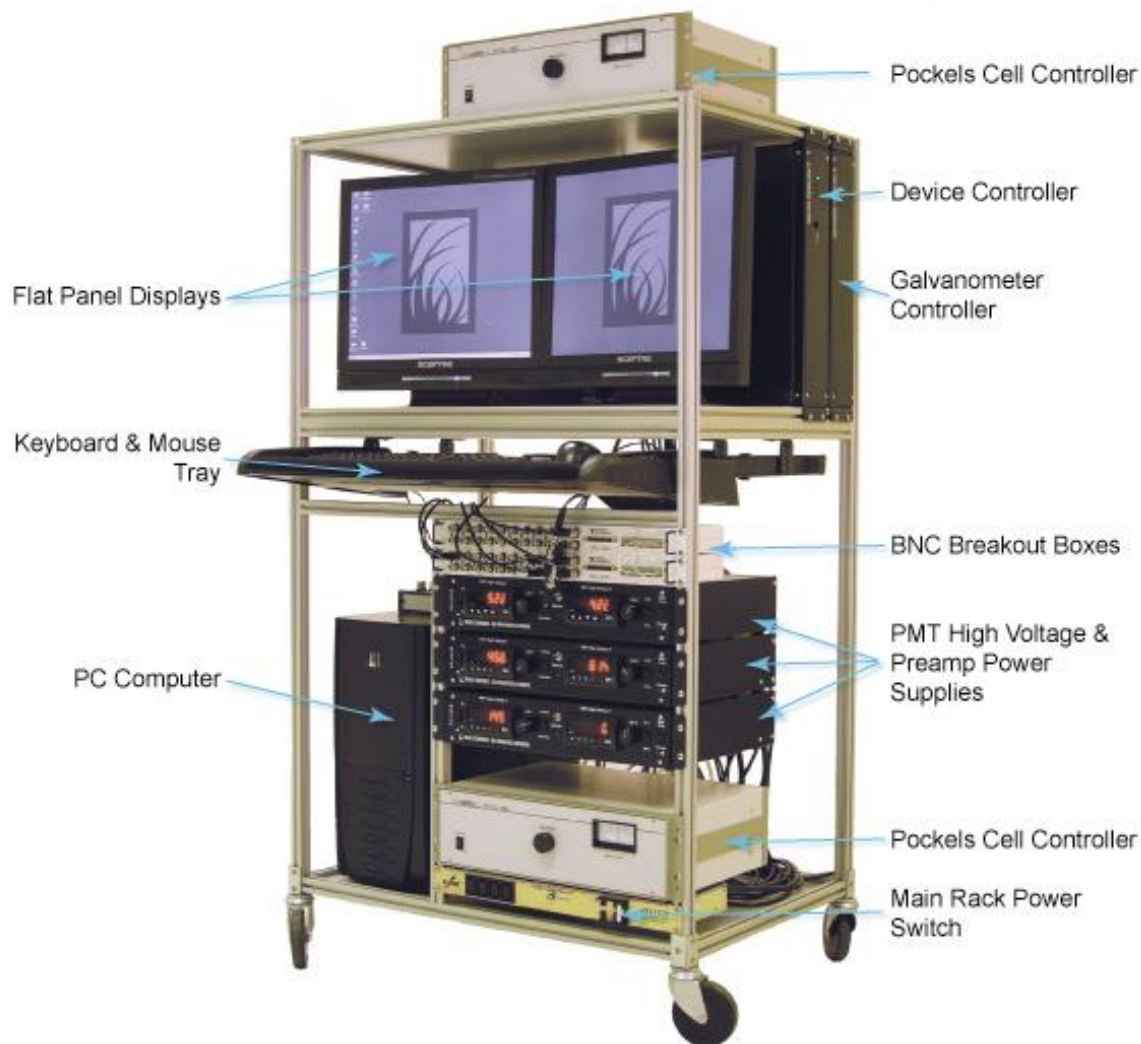

Figure 4.1: Ultima electronics rack
The Ultima Multiphoton Microscopy system contains many electronic and optical components. In this section, pertinent information regarding the electronics rack (shown in Figure 4.1) and key stage and imaging electronics will be described.
The PMT high voltage (HV) is controlled via the PMT control unit mounted in the instrument rack (shown in Figure 4.1). Each unit controls two PMTs. If your system has more than two PMTs you will have additional units in your instrument rack.